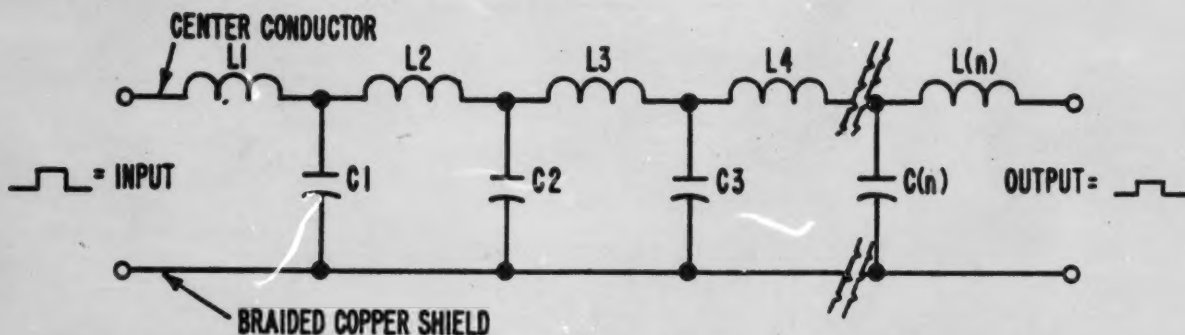

Figure 9
- (11) You have learned that the leading edge of a signal pulse which is injected into a coaxial cable receives a time delay. Figure 9 again shows the equivalent LC circuits in coaxial cable.